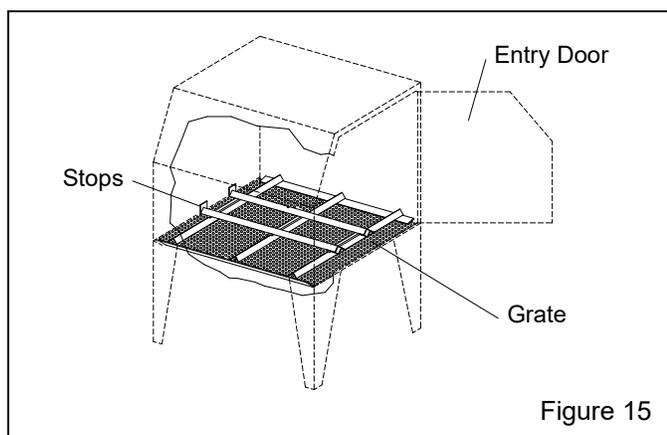

Figure 15
Installation note: The track may be placed on either side of the cabinet, allowing entry through either the right side or left side door; the right side is shown in the illustrations. When installing the inside track, place it so the stops are opposite the entry door, as shown in Figure 15.
3.5.2 Place the inside track in the cabinet over the existing grate, as shown in Figure 15. The workcar stops must be on the opposite side from the entry door.